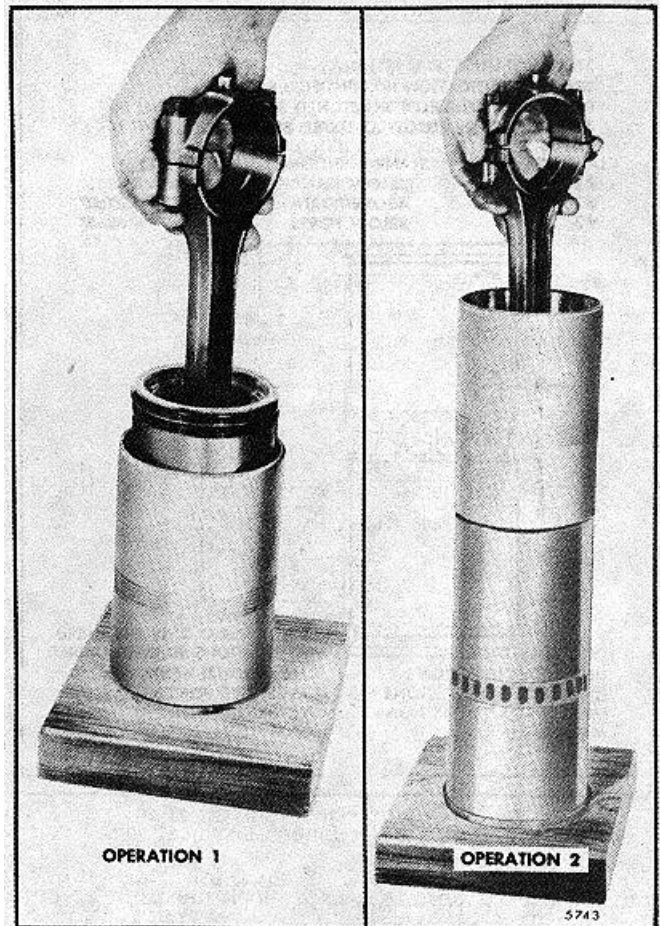

FIG. 10 - Installing Piston and Connecting Rod Assembly in Ring Compressor and Cylinder Liner
compressor. Then push the piston down until it contacts the wood block ("Operation 1" of Fig. 10).
6. Place the ring compressor and the piston and connecting rod assembly on the liner so the numbers on the rod and cap are aligned with the matchmark on the liner ("Operation 2" of Fig. 10).